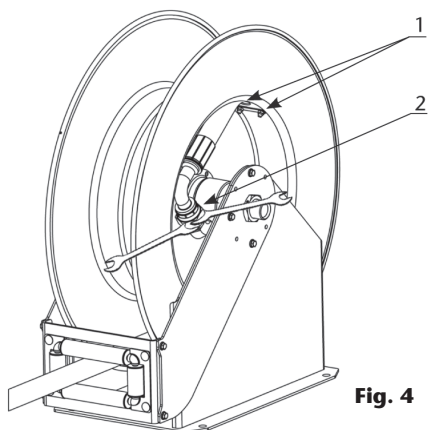

Fig. 4
2. Remove the U-bolt by loosening its nuts (1) and disconnect the hose from the swivel (2) by using two wrenches (Fig. 4).
4. Connect the new hose to the swivel by using two wrenches. Place the U-bolt in such a way that it firmly holds the hose against the spool, and pull the hose in order to unlock the ratchet (Fig. 4).